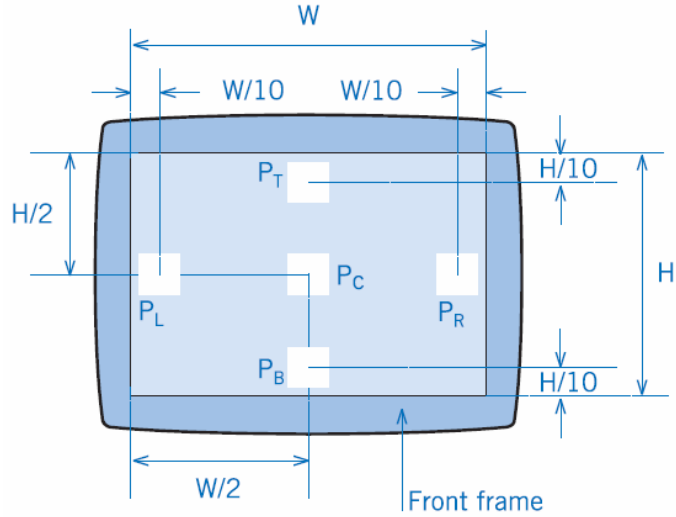

Figure1: Measurement positions for angular dependence luminance uniformity.
1. Refer to Fig.1&2, for FPDs in the horizontal direction, the mean value of the Lmax. to Lmin. ratios at ±30 degrees shall be ≤ 1.7.
2. Refer to Fig.1&3, for FPDs in the vertical direction, the value of Lmax. to Lmin. ratio at +15 degree shall be ≤ 1.7 and the largest value of Lmax. to Lmin. ratio at ± 15 degree shall be
Refer to Fig.1&2, center point(Pc) Luminance of White(Lw) and Black(LB) is measured at ±30 degrees.